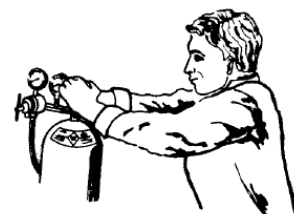

Figure 4
7. **Opening a Cylinder Valve with a Regulator Attached**—Figure 4 shows how to position yourself when opening a cylinder valve. Always stand to the side of the regulator away from the front of the gauges and adjusting knob. Place both hands on the cylinder valve. Open it slightly and very slowly until the cylinder pressure builds on the gauge and the needle stabilizes. The cylinder valve should then be opened to the full limit of its travel, which will back seat the cylinder valve.